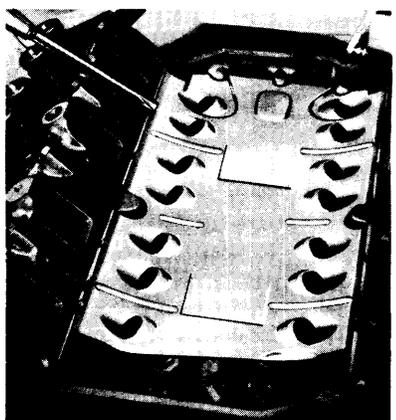

FIG. 84—Baffle Plate Removal
11. Remove the baffle plate from the valve push rod chamber floor by prying up on the baffle with a screw driver (Fig. 84).